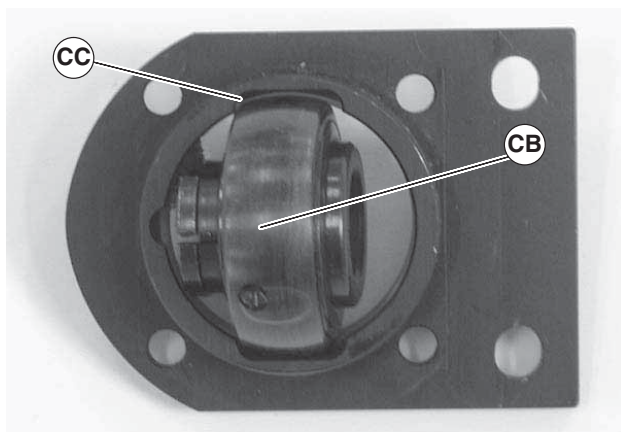

Figure 61
1. Turn bearing (Figure 61, item CB) to align with slots (CC) in bearing housing. Then remove bearing.